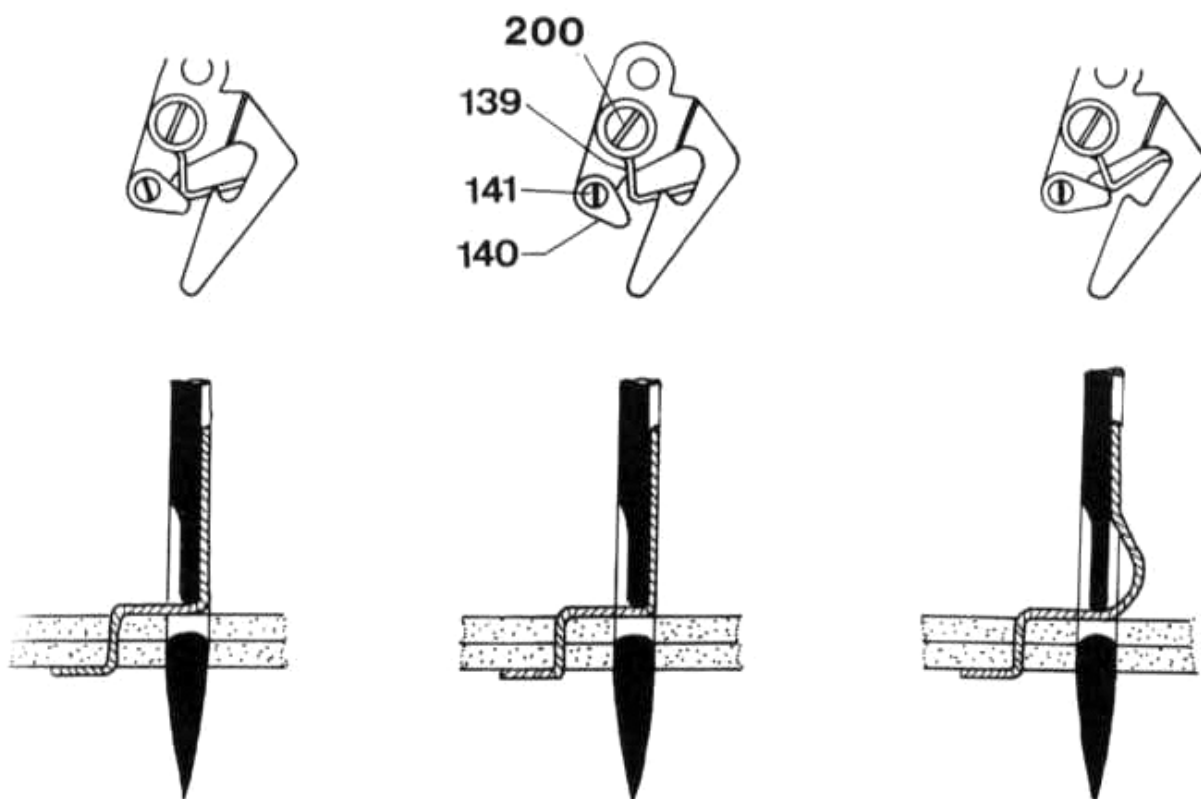

Fig. 63
The thread regulator spring (139) should lie on the limiter (140) at the instant when the eye of the needle enters the work. The stop (140) can be set to the correct position by turning screw (200) (Fig. 63).